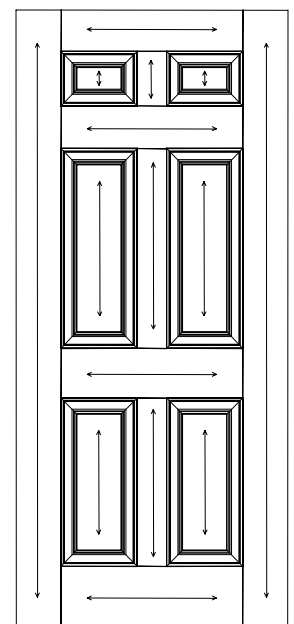

Figure 6
Apply an even amount of stain with a brush or lint-free cloth in the direction of the grain as shown in figure 6. Work the stain onto the surface. Using a clean rag, quickly remove excess finish. Do not wipe with excessive pressure, wipe lightly. Follow the stain application recommendations of the finish brand.
After stain has dried for at least 24 hours, apply 3 coats of a high quality exterior grade polyurethane topcoat (recommend satin or low gloss) in the direction shown in figure 6. **Important:** Use topcoat with ultraviolet (UV) inhibitor. Follow the brand's recommended drying time between coats.
Generally the textured fiberglass doors are meant to be stained, although they can be painted as well. However, the smooth skin doors can only be painted. We recommend painting the smooth skin door within 6 months after the door is purchased with quality acrylic latex exterior paint. Paint the door in the direction shown in figure 6. Apply at least 2 coats of paint. Follow the brand's recommended drying time between coats